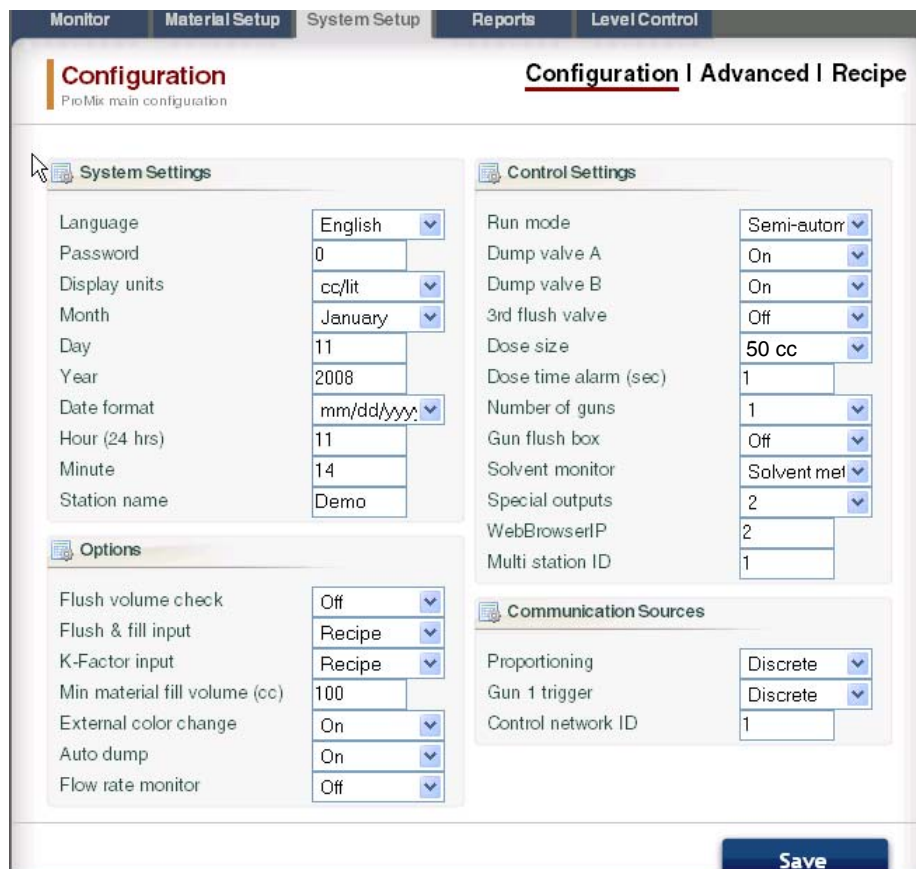

FIG. 45. System Setup Tab, Configuration Screen
Each EasyKey must have a unique name and IP address. See the Configuration Screen in FIG. 45 to set the Station name (1-99).
- The **Configuration** screen corresponds to the System Configuration screens of the EasyKey. See FIG. 45. For complete information about these settings and their effects, see the Setup section in the system operation manual.